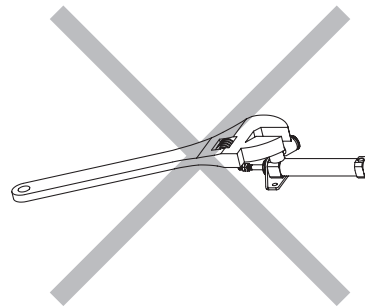

Figure 2
2. Figure 2 shows an incorrect use of a wrench, which is excessively large; Figure 3 shows an incorrect way to apply force.